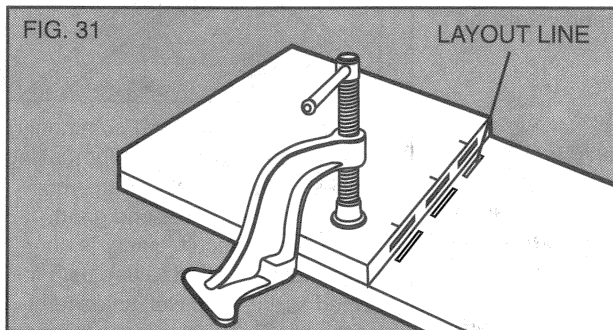

FIG. 31
- B. Lay the shelf down on the mating workpiece. Clamp the two workpieces together and to the work surface in this position (See Figure 31).